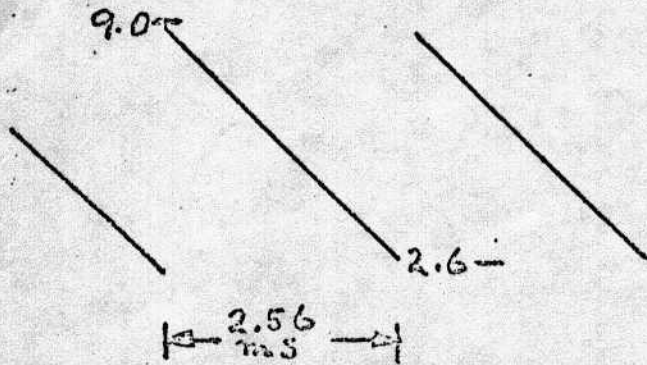

FIG. 7. EMITTER OF Q46 WITH MIDDLE G DEPRESSED.
5. Depress "one octave" tab and the A above middle G on the keyboard. Observe a sawtooth wave as shown in Fig. 7 at the emitter of Q46. Adjust tune control to approximately the middle range. Adjust R16 for approximately 440 Hz.